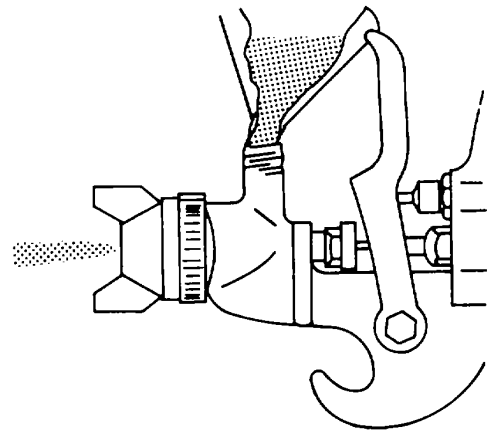

Figure 5-8. Flushing Paint Gun with Thinner or Solvent (Pressure Tank or Gravity Bucket)
(2) Paint gun with pressure tank or gravity bucket. When the gun is used with a pressure tank or a gravity bucket, proceed as follows (see figure 5-8):